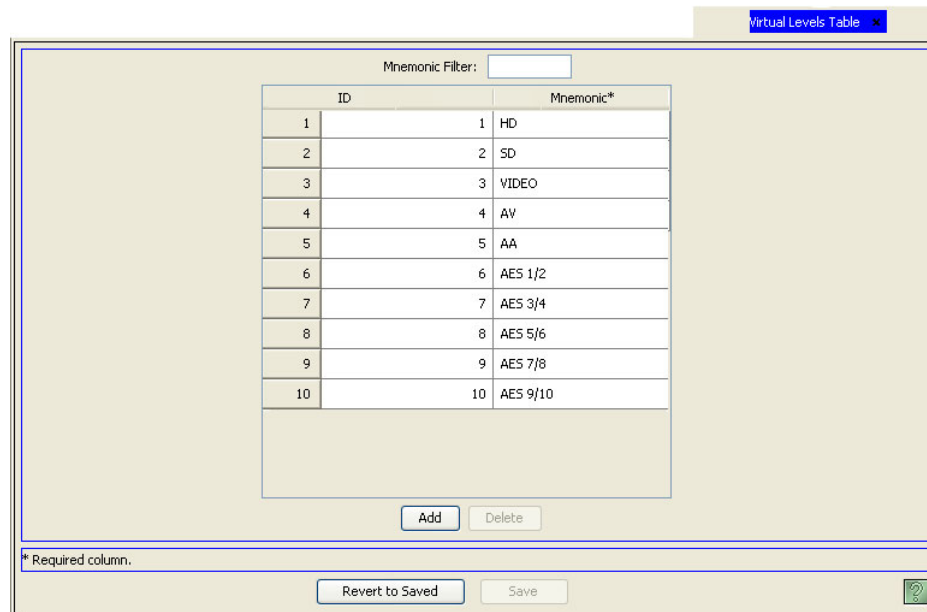

Figure 8-9. Virtual Levels Tables
- 1 From the Navigation area, select the ‘Views’ pane and then ‘Virtual Levels’. The ‘Virtual Levels’ table appears, as shown in Figure 8-9.